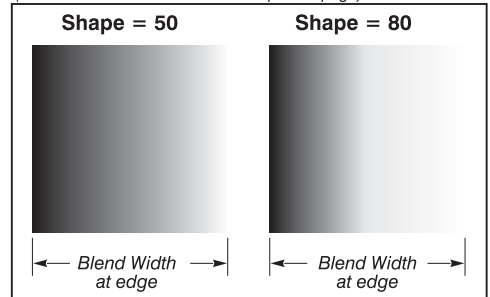

Figure 3.35. “Shape” Examples
- **Blend Shape** determines the rate of roll-off across the blend width, i.e. how quickly the white levels across the blend change from light and dark. Increasing the *Blend Shape* setting accelerates the rate of change at both extremes so that *less* of the region appears mid-gray (see Figure 3.35). Decreasing the *Blend Shape* setting slows the rate of change so that *more* of the region appears mid-gray. For most applications, this subtle control is best left close to 50.